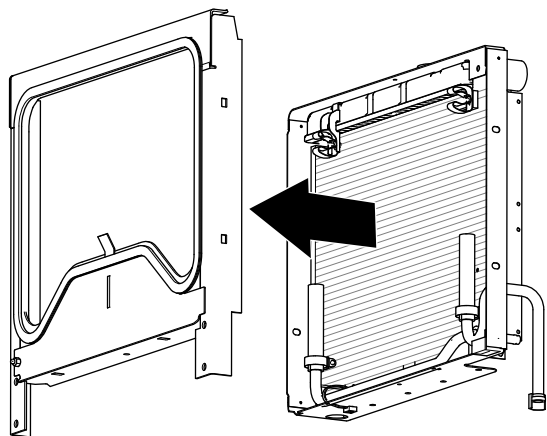

Figure 23
- Separate the mounting frame from the radiator (Figure 23).